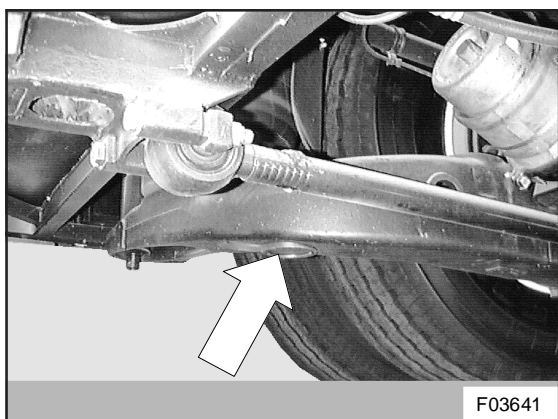
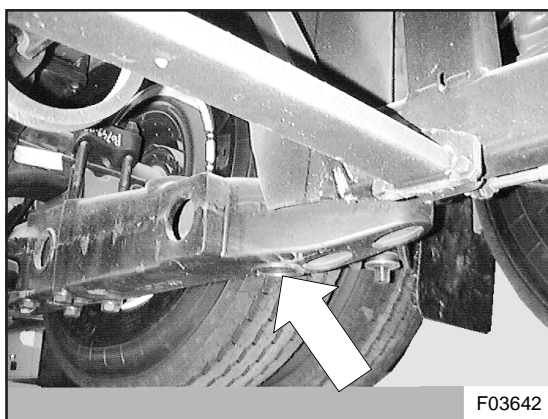

Figure 5: C-beam front jacking point
Figure 6: C-beam rear jacking point
- Jacking pads of drive axle suspension C-beams forwards (see Figure 5) or rearwards (see Figure 6) of the wheel.